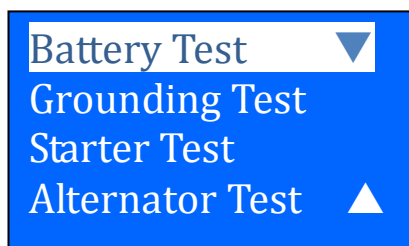

Figure 14
3. After you have made your choice, selecting “New: Clear Memory” or “Continue...Test” will proceed to the display below: (Fig. 14)
5. As an example (Fig.14) the selected item was on "Battery Test" and it is being highlighted.